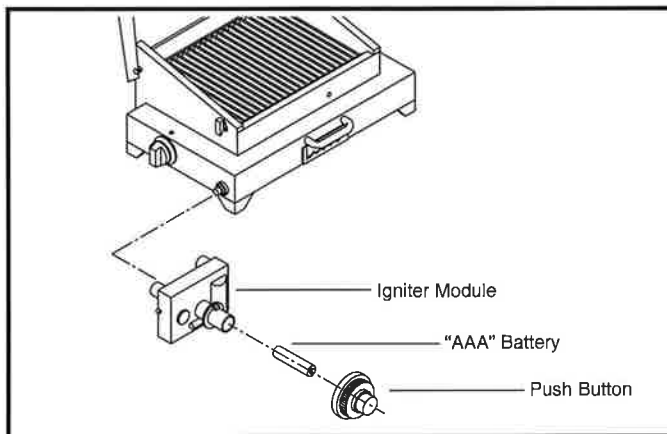

Figure 13 Spark Module Battery Replacement
1. Turn the silver-colored ribbed collar surrounding the push button, counter-clockwise one-half turn and pull out to remove. (See Figure 13, Page 15)